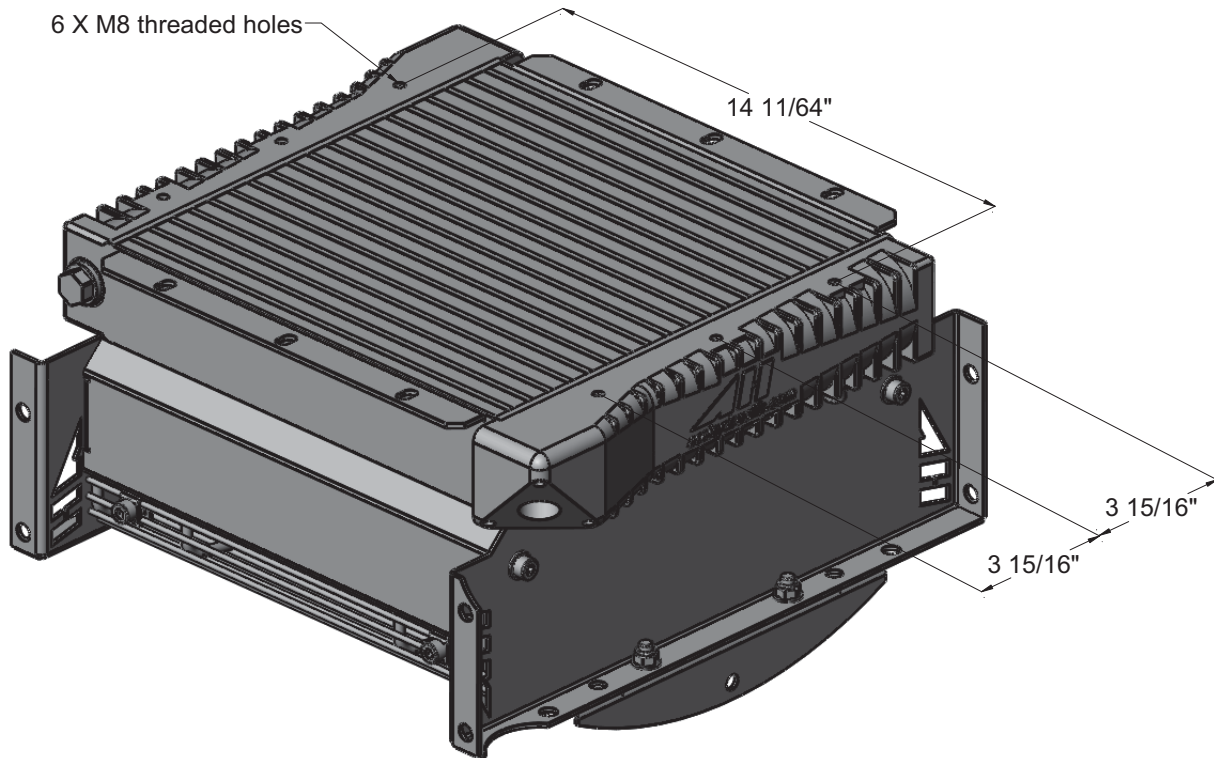

Figure 8: Inspect Threads and Hole-to-Hole Dimensions
4. Bolt the side plates back onto the cooler. See Figure 8 on page 8.
1. Inspect the M8 threaded holes in the top for the cooler core to ensure the threads are in a good condition. Also, verify the dimensions from hole to hole and confirm they match the holes in the angles previously welded to the frame. See Figure 8 below.